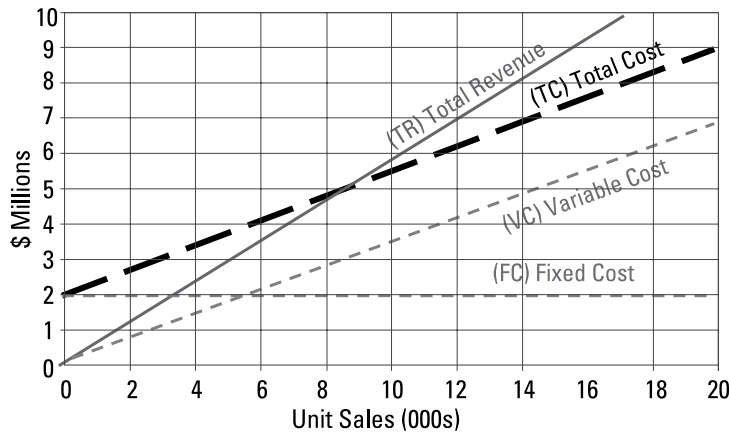

FIGURE 5-3:
Assuming you sell everything you produce for a fixed price per unit (R), total revenue (TR) is equal to $R \times Q$. Figure 5-3 illustrates the relationship among volume, costs, and revenue. The difference between the TR and TC curves represents the profit (or loss) of the process.